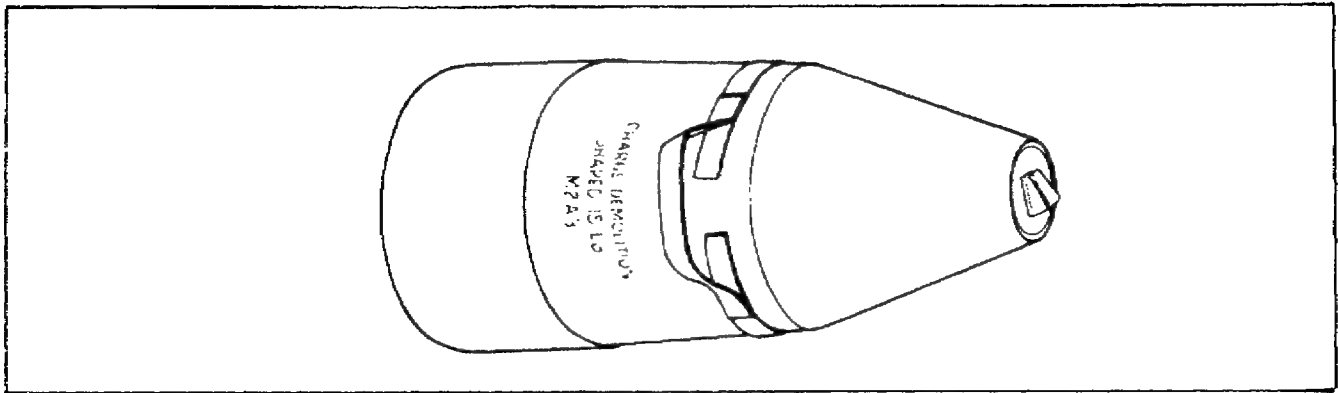

Figure 88. Charge, Demolition, Shaped, M2A3, 15-Pound.
**Charge, Demolition, Shaped, M2A3, 15-Pound.** This shaped demolition charge (Figure 88) functions the same way as the 40-pound shaped charge, but it is smaller. Specially designed for penetrating reinforced concrete, it is approximately 16 inches high and 7 inches in diameter and has a fiberboard sleeve for standoff. It is color coded olive drab with yellow markings, and is packed three to a wooden box.